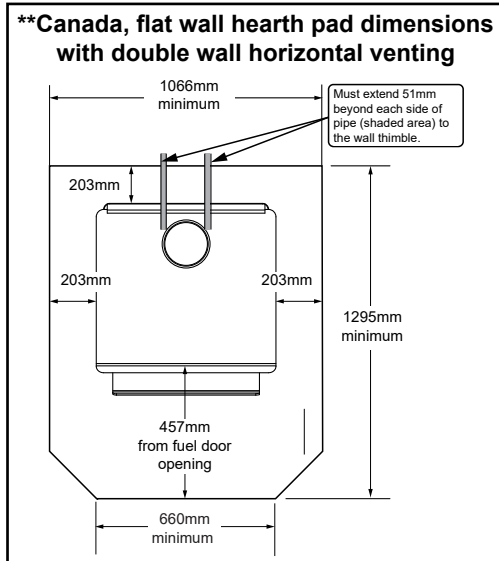

Figure 9.2 - \*\*These dimensions will vary depending installation.
**In Canada,** similar floor protection must be provided 16 inches (457mm) in front and 8 inches (203mm) from the sides and rear of the appliance unless the hearth pad is placed against the wall (see Figure 9.2). Then the clearance may be reduced using double wall pipe and the Clearance to Combustibles table listed on page 10.
**\*Exception:** Non-combustible floor protector must extend beneath the fuel pipe when installed with horizontal venting and extend 2 inches (51mm) beyond each side (see Figure 9.2).